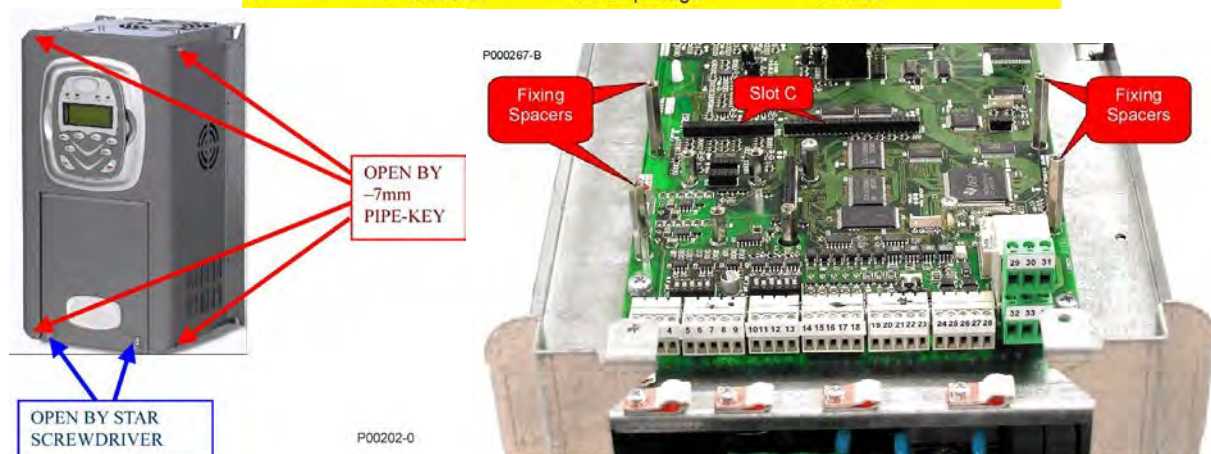

Figure 178: Removing the inverter cover; location of slot C
2. Remove the whole inverter covering by loosening the four hexagonal screws located on the top side and bottom side of the inverter to reach the fixing spacers and the signal connector (Figure 178 – Slot C.)